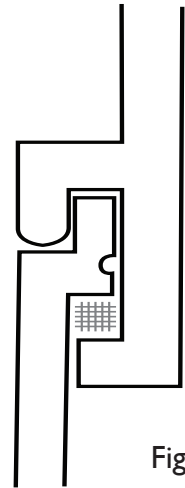

Fig 14
**Do not hit directly down on top of the board.** If the top of the board should be damaged slightly in handling or fixing, it will not affect the overall integrity of the system - due to the anti-capillary groove which acts as a secondary barrier against rainwater. Capillary action draws moisture because of the surface tension between abutting surfaces. The gap provides a break to the tension and moisture cannot progress further (**Fig 14**).